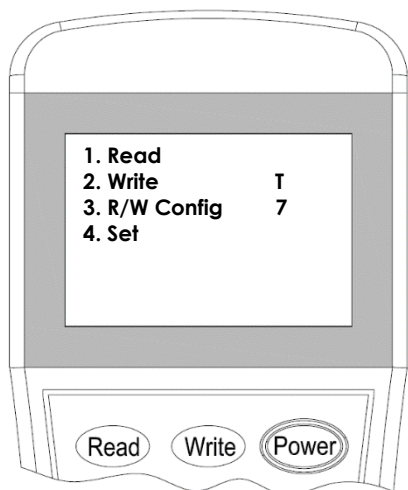
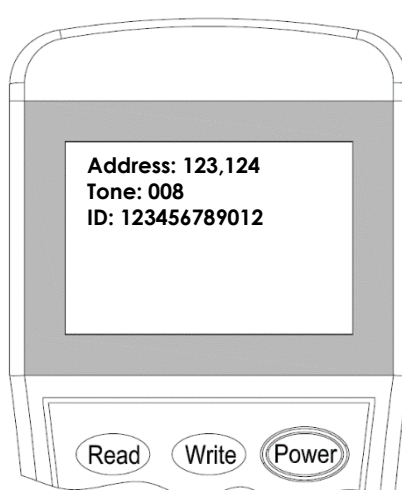

Figure 17
Figure 18
2. Switch-on the programmer, then press button **“Read”** or **“1”** to enter to Read mode (Figure 17). The programmer will display the configuration after few seconds. (Figure 18).